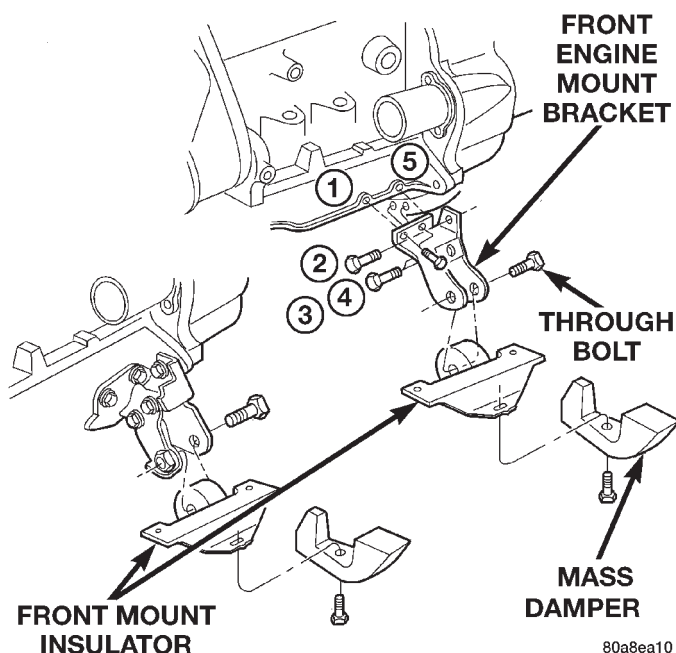

Fig. 11 Engine Mounting—Front
- (1) Raise vehicle on hoist.
- (2) Support the engine and transmission assembly with a floor jack so it will not rotate.
- (3) Remove the front engine mount thru-bolt from the insulator and engine mount bracket (Fig. 11).
- (4) Remove the mass damper. Remove the front mount nuts and remove insulator assembly.
- (5) Remove the engine mount bracket, if necessary.
- (6) Reverse removal procedure for installation and tighten fasteners in this order.
- a. If engine mount bracket was removed, tighten bolt 1 to 3 N·m (20 in. lbs.) and bolts 2, 3 and 4 to 108 N·m (80 ft. lbs.) (Fig. 11).